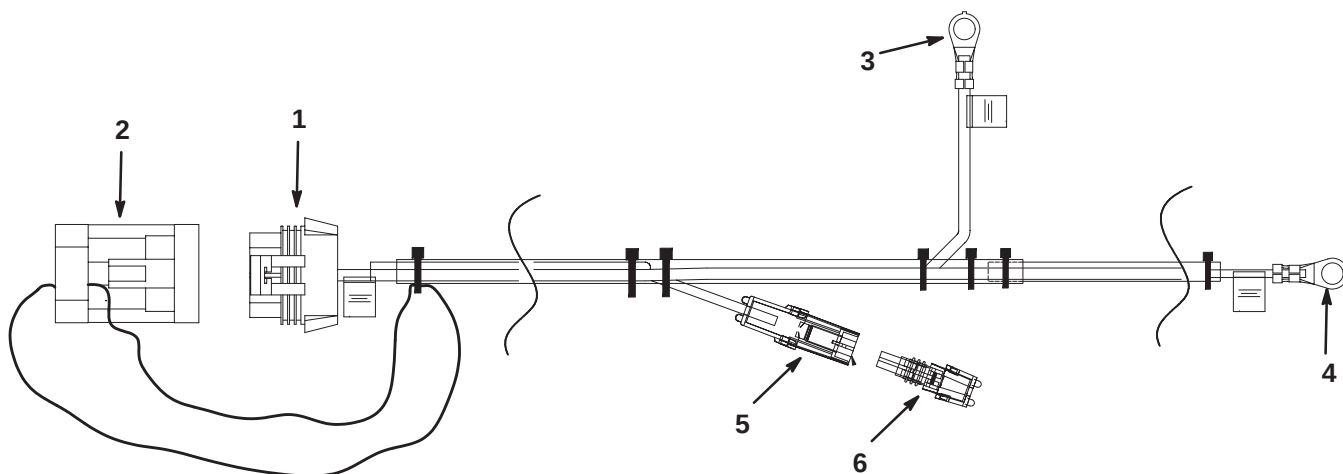

Figure 7
- Connect the power wire harness ring terminals to the tow vehicle battery (Fig. 7).